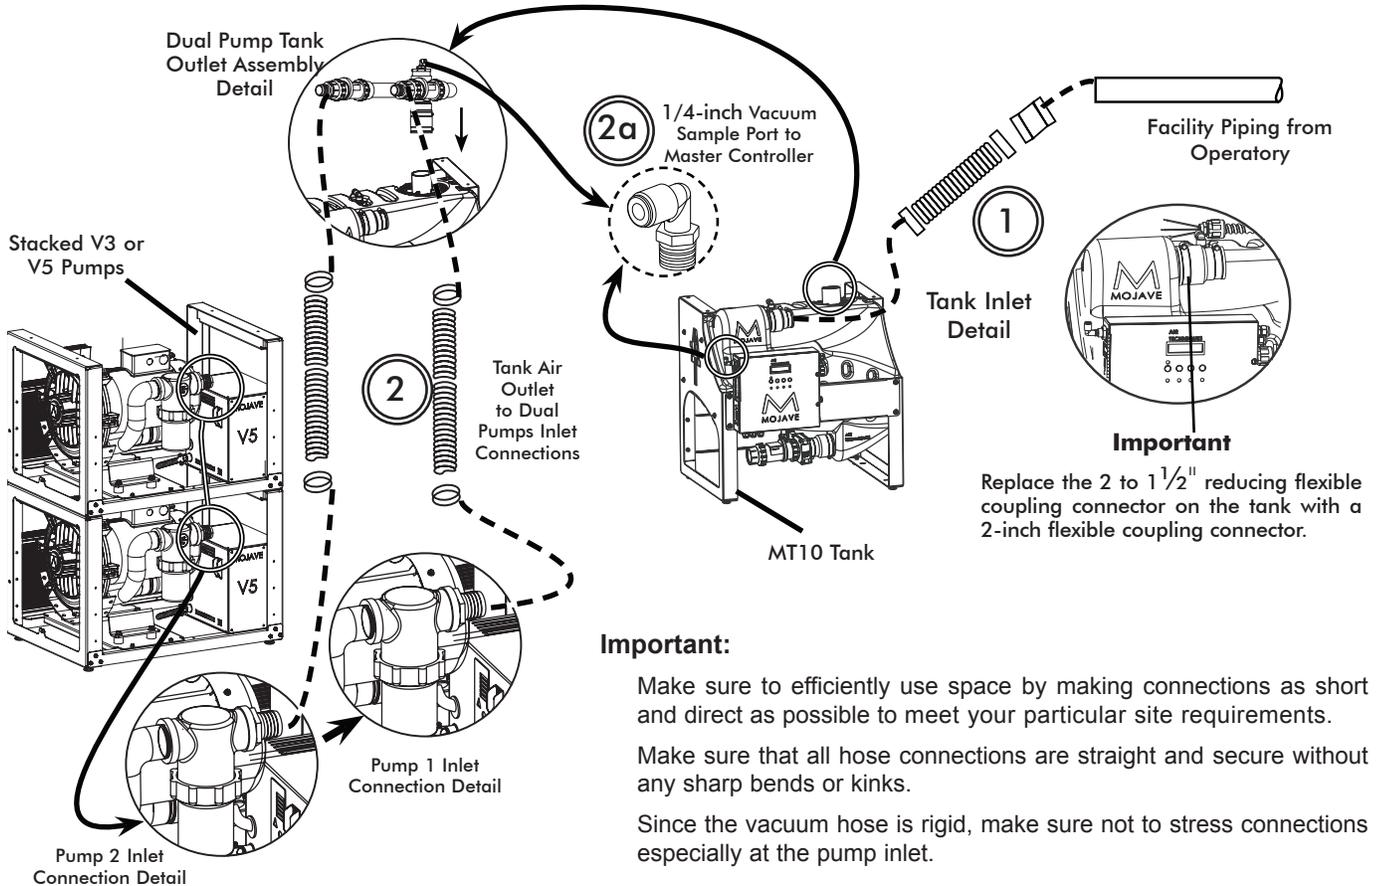

Figure 10. MOJAVE Dual Pump and Tank Connection Diagram, Sheet 1
- c. Install a length of 1/4 inch OD Urethane Tubing (P/N 51453) between the vacuum sample port and the vacuum inlet port of the Master Controller. See Figure 10, item (2a.)
3. **Heat Exhaust Vent Connection.** Refer to Figure 10, sheet 2, item (3) and connect the vent hose (P/N 56057) between the pump heat exchanger and the facility vent line. Secure with two hose clamps (P/N 89324).